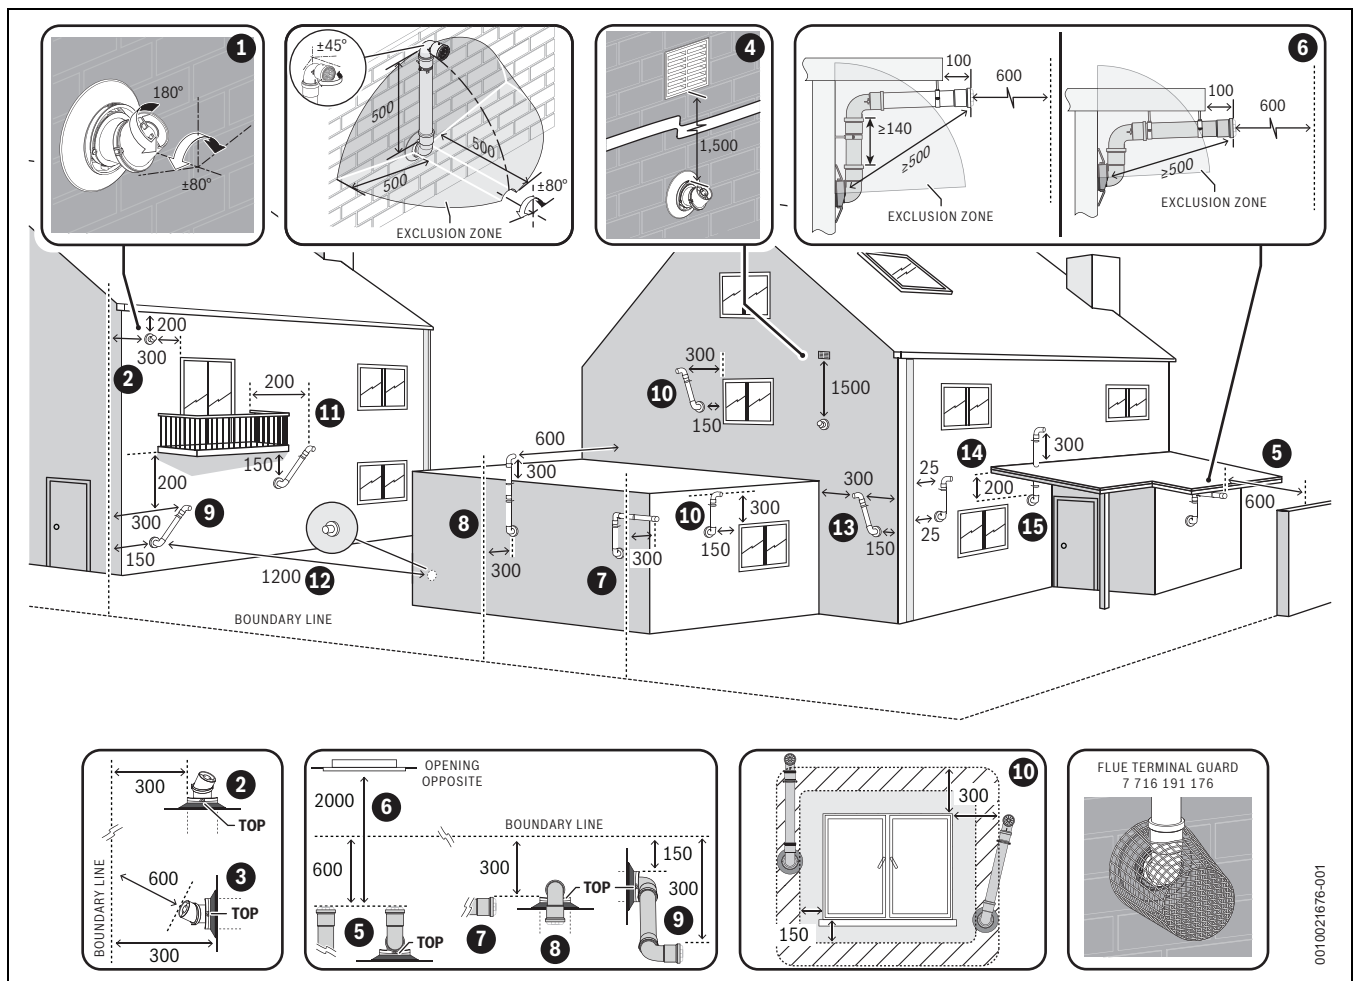

Fig. 30 Plume re-direct and plume management terminal positions
- ▶ Refer to “Horizontal flue terminal positions” for all concentric flue terminal positions unless the flue position is specified in figure 30 “Plume re-direct and plume management terminal positions”.
### Key to figure 30